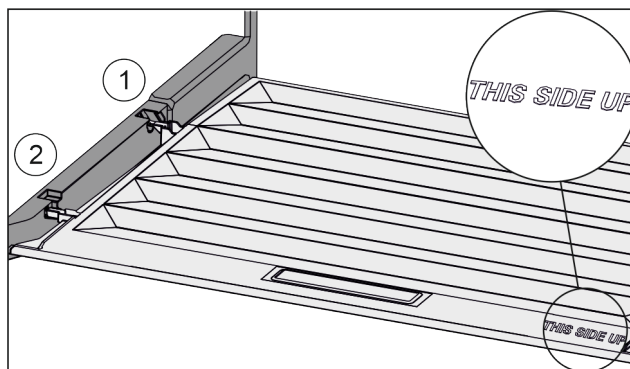

*Fig. 83*
- ▶ Pull the lid up at the front to the opening in the retaining parts *Fig. 83 (1)*.
- ▶ Lift from the back and pull it up and out *Fig. 83 (2)*.